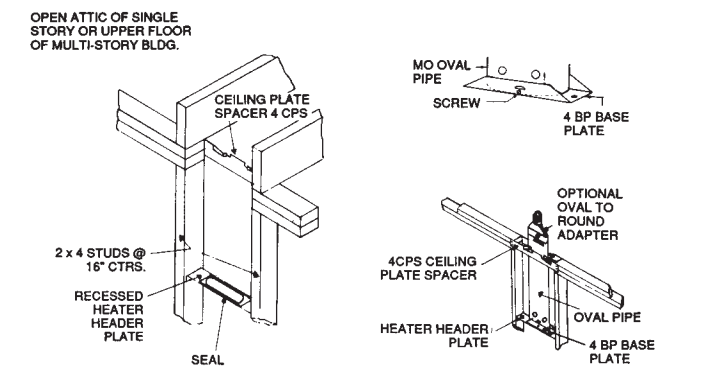

FIGURE 7
7. If the installation is with a recessed heater, the 4MOK installation kit is required. At the top of the recessed heater mounted in the stud wall, the gasket is applied under the base plate from the 4MOK. The base plate is screwed to the heater outlet. The base plate has provisions to allow 4BW vent to snap in place. At the ceiling level, the ceiling plate spacers are mounted to maintain proper clearances to combustibles. (At this point the installation is the same as explained earlier (See Figure 7).